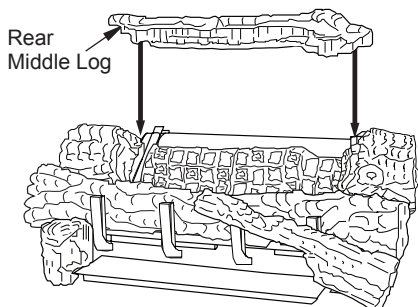

Figure 43 - Installing Rear Middle Log
8. The rear middle log (18" D-068, 24" & 30" D-042) should fit between the ramp log and the rear burner. The left and right middle logs have recessed areas for the rear middle log to sit into (See Figure 43). There may be a small gap between the rear middle log and the ramp log, this is normal. Be careful not to push the rear burner out of position while installing this log.